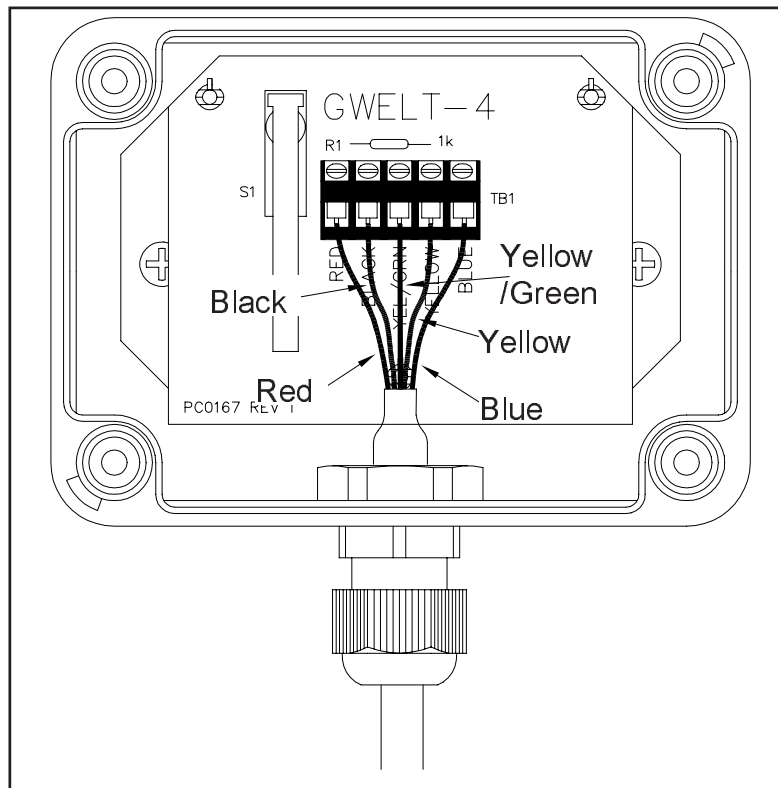

Figure 24
4. Connect the sensor tails to the terminal blocks ensuring that the tail colours match the screen printing. See Figure 24.